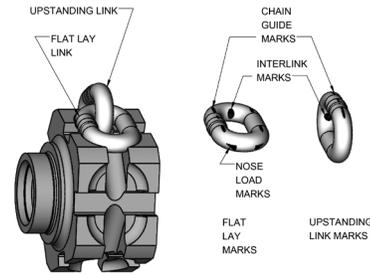

Figure 13. Chain Wear Areas
3. Slack the portion of the chain that normally passes over the lift-wheel (sprocket) or idler sprocket on multi-reeved hoist. Examine the chain links for wear (see figure 13). If the wire diameter anywhere on the link measures less than 90% of the nominal wire diameter, the chain must be replaced.